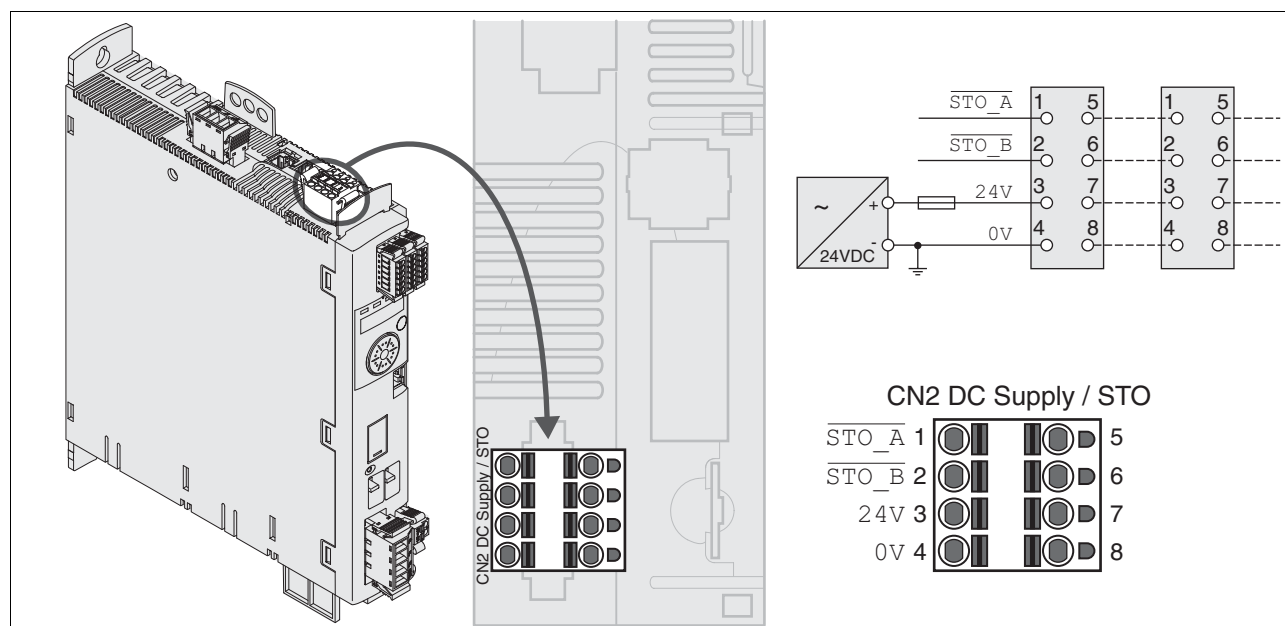

Figure 6.12 Wiring diagram controller supply voltage
- Connection CN2, pins 3 and 7 as well as CN2, pins 4 and 8 (see Figure 6.12) can be used as 24V/0V connections for additional consumers.¹ Note the maximum permissible terminal current ("Properties of spring terminal CN2").